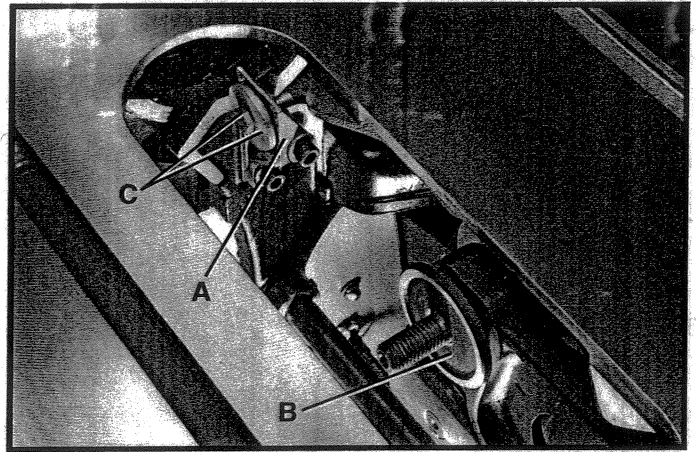

Fig. 34
2. The inside splitter mounting bracket (A) Fig. 34, is assembled to the inside of the saw and aligned with the inside blade flange (B) at the factory. To check the alignment, remove screw and fastener plate (C).